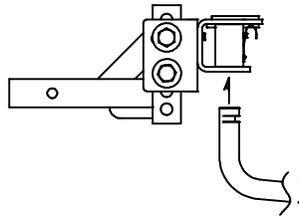

Figure 6
9. Hold the spring bar (3) perpendicular to the shank (2). Insert the upper trunnion pin into the upper pocket of the head assembly (See figure 6). Rotate the spring bar so the lower trunnion pin passes through the entrance slot in the lower pocket of the head assembly.